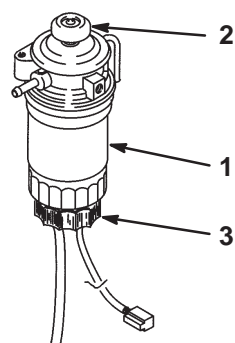

Figure 22
3. Open the drain plug on the fuel filter/water separator approximately one turn and drain any accumulated water. If necessary, operate the priming pump to drain the water (Fig. 22). Tighten the plug after draining.